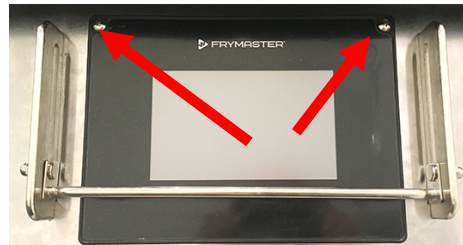

Figure 1
2. Remove the two Phillips head screws from the upper left and right corners of the controller (see Figure 1).